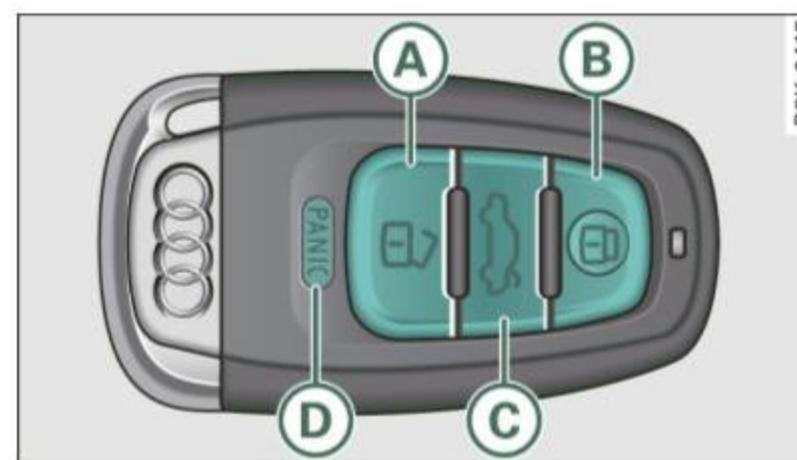

Fig. 35 Remote control: function buttons
If you switch **Trunk lid/tailgate On**, then the handle on the rear lid ⇒ *page 46*, *fig. 41* is locked. In this case the rear lid can be opened with the button ↺ on the master key ⇒ *fig. 35* or with the unlocking button in the driver's door ⇒ *page 46*, *fig. 40*. If the vehicle has the Convenience key* feature, then the handle will continue to work even if an valid key is near the proximity sensor.
- Press button ↵ (**A**) to unlock the vehicle ⇒ *fig. 35*.
- Push the red **PANIC** button (D) to activate the panic function. The horn sounds and the turn signals flash. Push the red **PANIC** button again to deactivate the panic function.